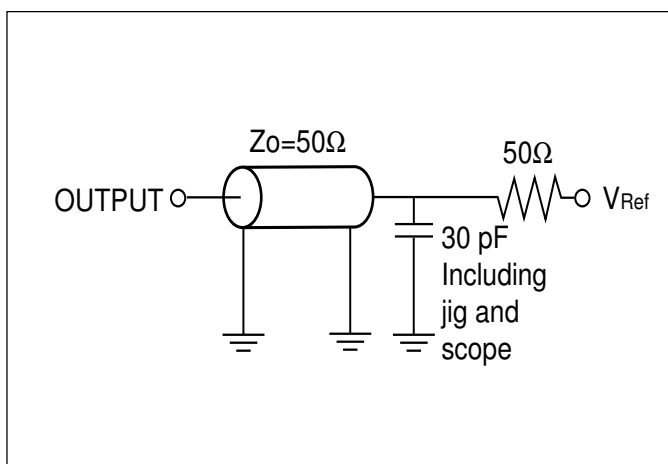

Figure 1a.
| Output Load   | See Figures 1a and 1b   | See Figures 1a and 1b     |
1. Test conditions assume signal transition times of 3ns or less, timing reference levels of 1.25V, input pulse levels of 0.4V to  $V_{DD}-0.3V$  and output loading specified in Figure 1a.